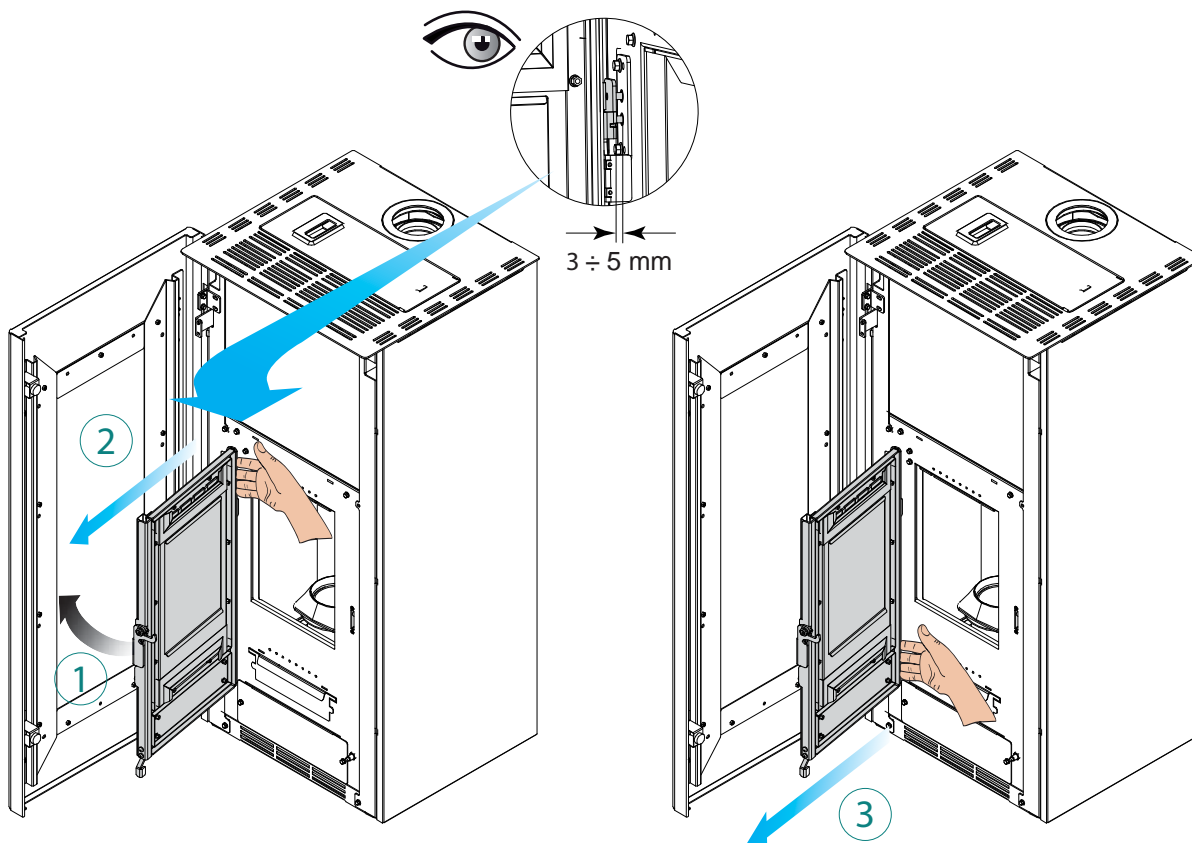

fig. 6.1
- To verify the correct operation of the soft zippers handed as from Fig. 6.1